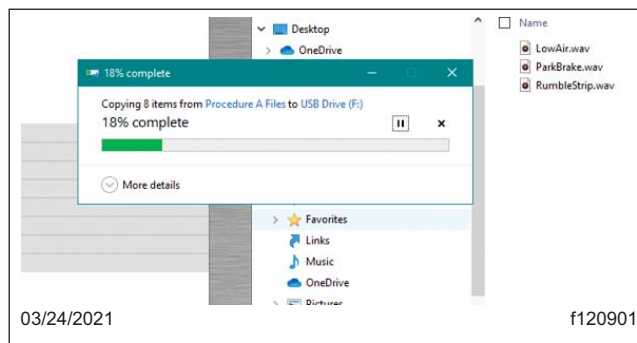

Fig. 11, Pasting Files in the Flash Drive
13. Navigate to the drive noted in step 3 for the flash drive, then right click on an empty space in the drive and select paste. See Fig. 11.